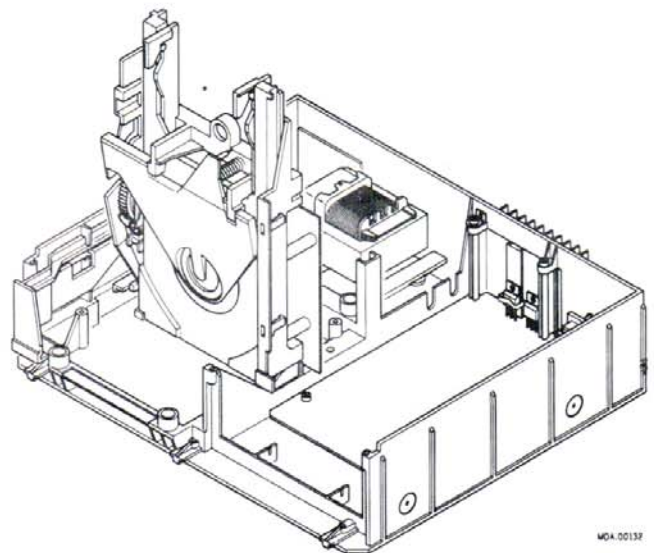

Fig. 3
SERVICING OF THE SERVO + PREAMPLIFIER PANEL (see Fig. 3)
- Now the tray mechanism/CDM/servo + pre-ampl. panel assy can be taken out of the frame and can be placed vertically in the appropriate servicing supports in the frame (see Fig. 3).